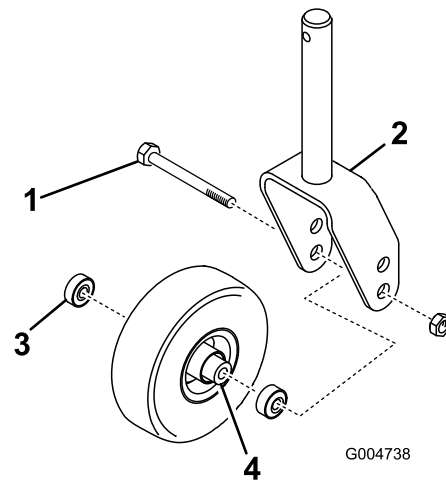
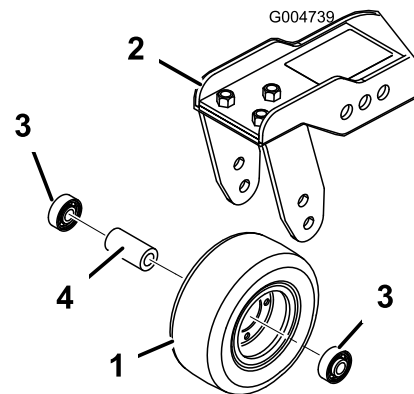

Figure 79
Figure 80
or the castor pivot arm (Figure 80). Grasp the castor wheel and slide the bolt out of the fork or pivot arm.
1. Remove the locknut from the bolt holding the castor wheel assembly between the castor fork (Figure 79)
2. Remove the bearing from the wheel hub and allow the bearing spacer to fall out (Figure 79 and Figure 80). Remove the bearing from the opposite side of the wheel hub.